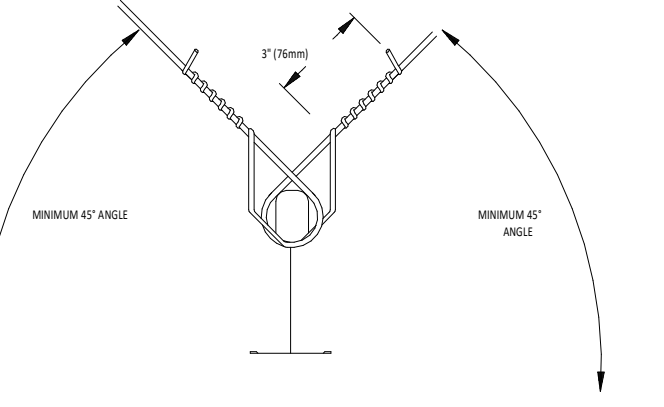

FIGURE 5b • COUNTER SLOPING
- HANGER AND PERIMETER WIRES MUST BE PLUMB WITHIN 1 IN 6 UNLESS (FIGURE 5a) COUNTER SLOPING WIRES ARE PROVIDED (FIGURE 5b). SOURCE: ASTM C 636 SECTION 2.1.4